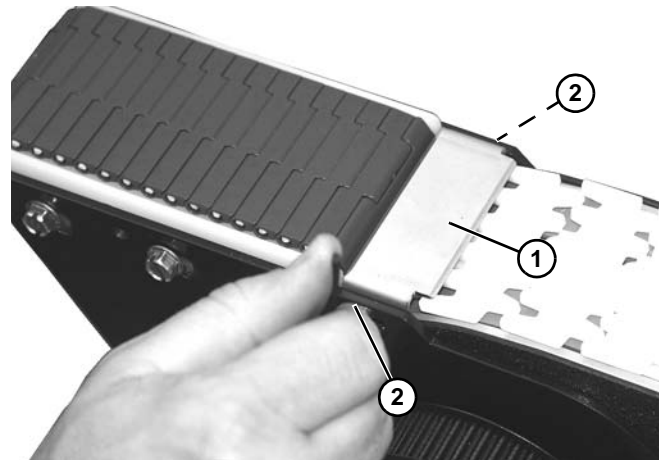

Figure 160
8. Install pinch guard (Figure 160, item 1) with two socket head screws (Figure 160, item 2).